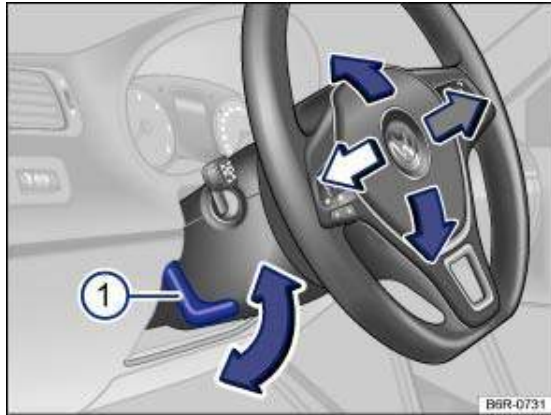

Fig. 45 Adjusting the steering wheel position mechanically
- Push down the lever → Fig. 45 ① .
- After adjusting the steering column, always move lever → Fig. 45 ① up so that it engages securely. This prevents the steering column from moving spontaneously while the vehicle is in motion.